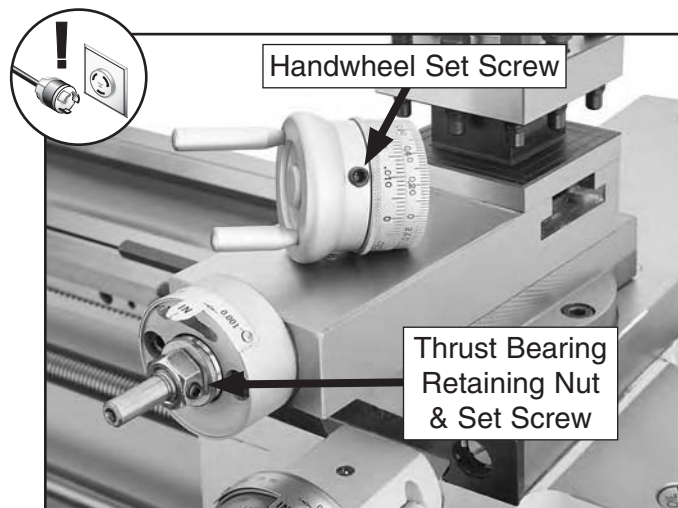

Figure 125. Compound rest backlash adjustment components.
2. Loosen the set screw that secures the compound rest handwheel to the leadscrew (see **Figure 125**), then remove the handwheel from the leadscrew.